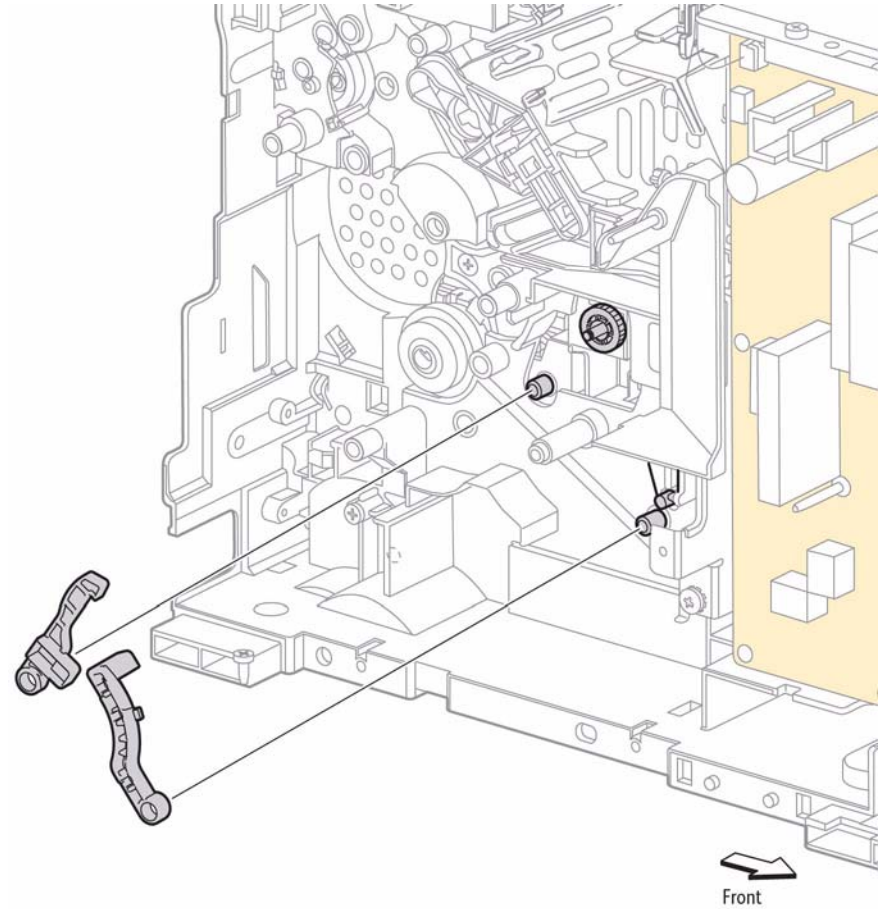

Figure 3 Remove the Lifter and Stopper Arms
18. Refer to Figure 3 to locate and release the feed spring from the lifter arm and remove the lifter and stopper arms from the printer's left side.